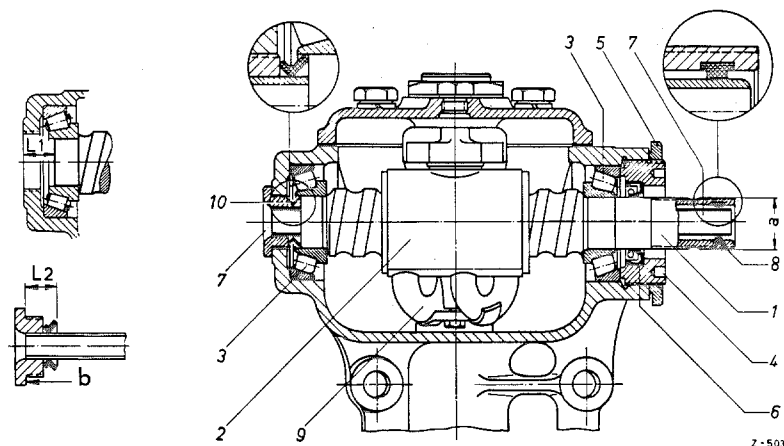

Fig. 46—4/18
In order to obtain improved sealing, as of Steering No. 3764/56, a second grease seal (10), Part No. 120 997 10 40, has been installed between the steering worm and the cable guide tube (Fig. 46—4/18).